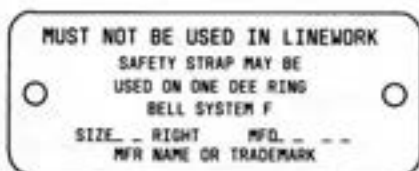

Fig. 4—Method of Using Safety Strap When Working From Ladder
3.12 When "belting in" with the safety strap, do not rely on the feel or click of the snap hook keeper as an indication that the snap hook is secured. See that the snap hook and Dee ring are properly engaged. The employee shall look and **know** that the snap hook is properly engaged before placing weight on the strap. Always have the keeper on the safety strap away from the body when engaged in the Dee ring (Fig. 4).